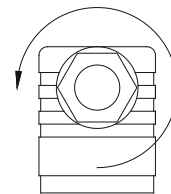

Fig. 7
- ☞ Loosen the screwed cable gland ⑤ M16x1,5 (→ Fig. 7).